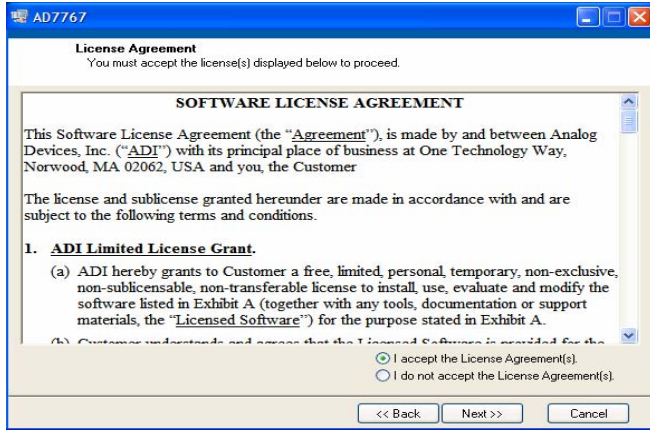

Figure 4. AD7766/-1/-2 Evaluation software install 3.
3) Accept the license agreement by selecting the correct option and clicking "Next" as shown in Figure 4.
5) On completion of the installation, the window as shown in figure 4 is displayed.